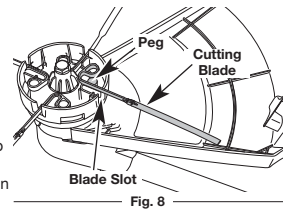

Fig. 8
2. Turn the cutting head over and grab an individual blade near the cutting head and wiggle it up and down until blade comes loose. (Fig. 8)
4. Take the new blade so that the loop at the end is facing away and to the right. (Fig. 8)
5. Place the loop onto the peg and adjust it so that it fits into the slot on the cutting head. (Fig. 8)
7. Repeat steps 4 thru 6 until all 4 blades are in place. (Fig. 8)